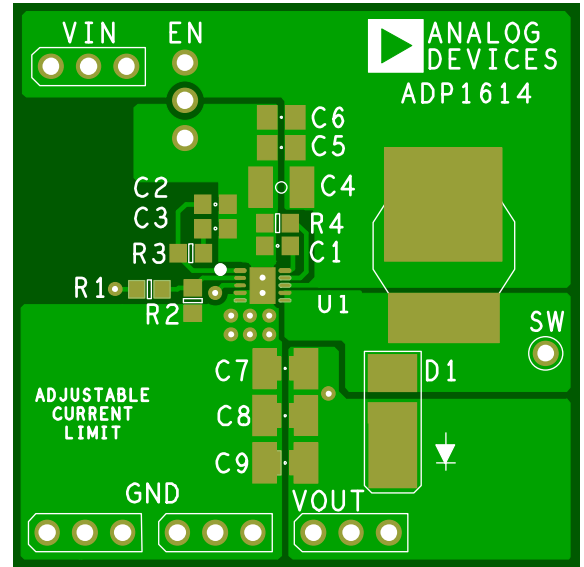

Figure 28. ADP1614 Recommended Top Layer Layout for Boost Application
- Keep the low ESR input capacitor (C_{IN}), which is labeled as C4 in Figure 28, close to VIN and GND. This minimizes noise injected into the part from board parasitic inductance.
- Keep the high current path from VIN through the inductor (L1), the rectifier (D1), and the output capacitor (C_{OUT}), which is labeled as C7 in Figure 28, as short as possible.
- Connect the soft start capacitor (C_{SS}), which is labeled as C1 in Figure 28, as close as possible to the device. Connect the ground of the soft start capacitor to an AGND plane that makes a Kelvin connection to the GND pin.
- Connect the current limit set resistor (R_{CL}), which is labeled as R4 in Figure 28, as close as possible to the device. Connect the ground of the CL resistor to an AGND plane that makes a Kelvin connection to the GND pin.